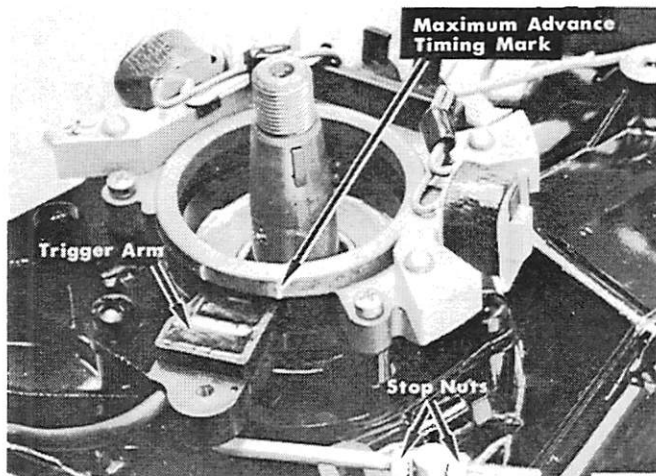

Figure 1. Maximum Advance Timing
6. Adjust 2 elastic stop nuts on link rod until side of trigger arm is aligned with timing mark on stator bracket. (Figure 1)